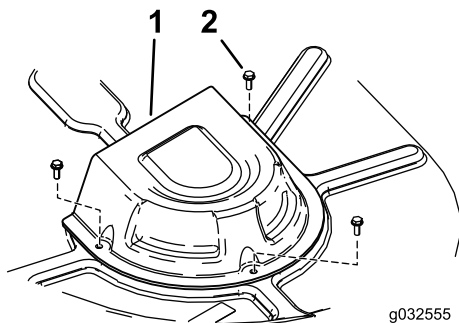

Figure 56
4. Remove the pulley covers (Figure 56).